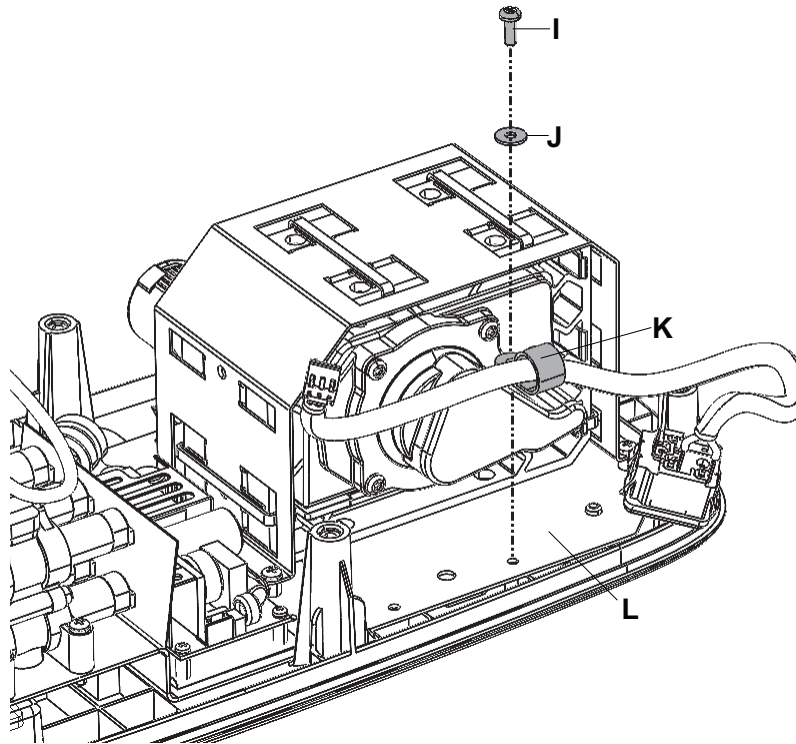

Figure 27 – Inlet power cord assembly
2. Using a #2 Phillips screwdriver, remove the screw (I), washer (J), and p-clamp (K) that secure the inlet power cord assembly (K) to the main support plate (L) (Figure 27). Save the screw, washer, and p-clamp.